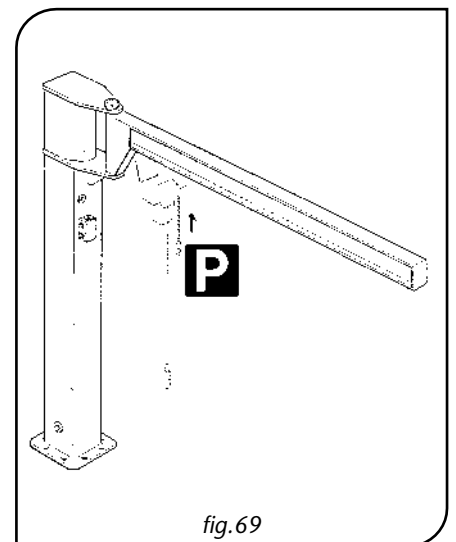

fig.69
- **ALWAYS** at the end of work, position the crane arm, the load hook and the push-button panel, so they are not a collision risk (fig. 69).